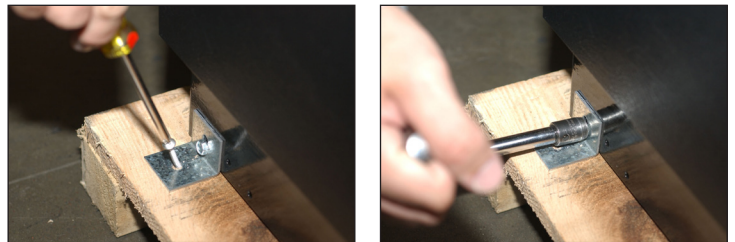

Fig. 3. If present, remove the L-bracket.
2. If applicable, remove the L-bracket securing the cabinet to the skid. See fig. 3.